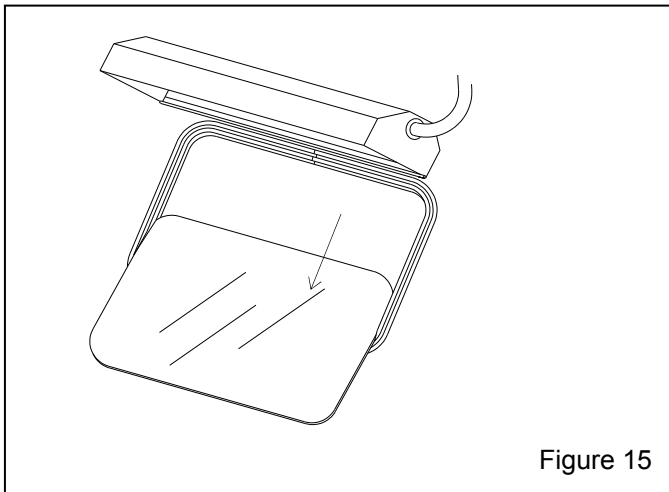

Figure 15
6.4.4 Pull the window downward to remove the window from the molding, as shown in Figure 15.